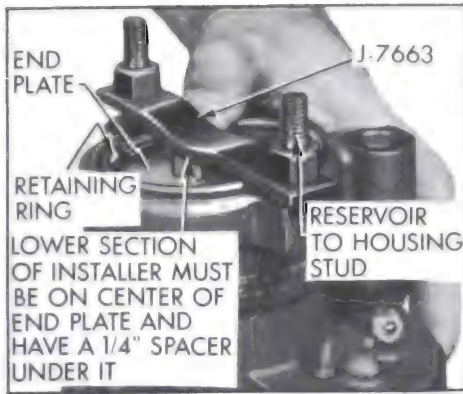

Figure 8-64—Installing Housing End Plate
13. Place end plate retaining ring on top of end plate. Lay a 1/4" spacer on center of end plate, then position Installer J-7663 on end plate so that the depression on it is against the spacer. See Figure 8-64. Attach installer to housing using the reservoir to housing studs with long end of studs threading in housing. Press end plate down by tightening studs until ring groove in housing is evenly exposed. Install retaining ring. Be sure ring is completely seated in housing groove and end plate is aligned properly. Remove studs.